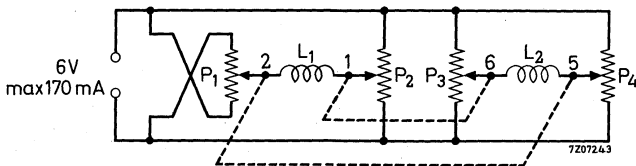

Fig. 1
- With the tube fully scanned in the vertical direction, the image has to be shifted so that the graticule is fully covered. With the circuit according to Fig. 1 this is done by means of the ganged potentiometers P1 and P4.